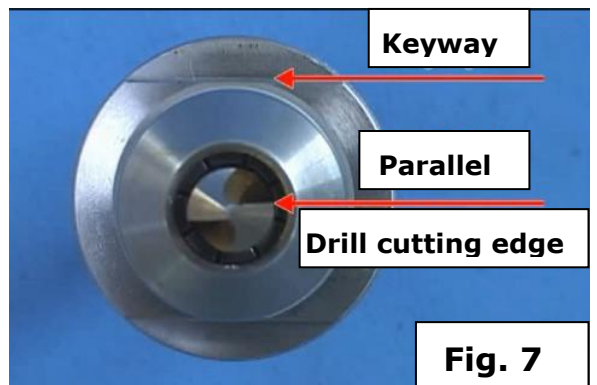

Fig. 7
- The leading edge of the chuck and the major cutting edge of the drill should be two parallel lines! (Fig. 7)